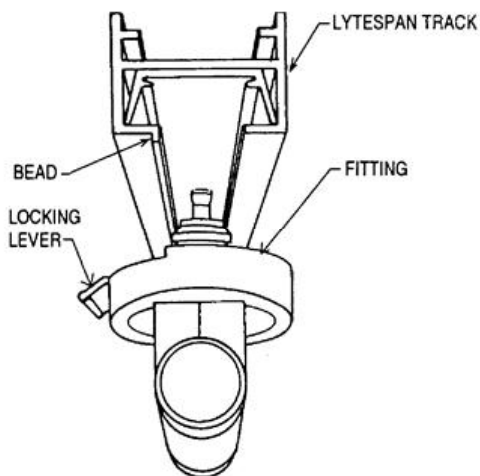

FIG. 1
1. Insert into LYTESPAN TRACK (see Fig. 1). LOCKING LEVER must be on the same side of track as BEAD.